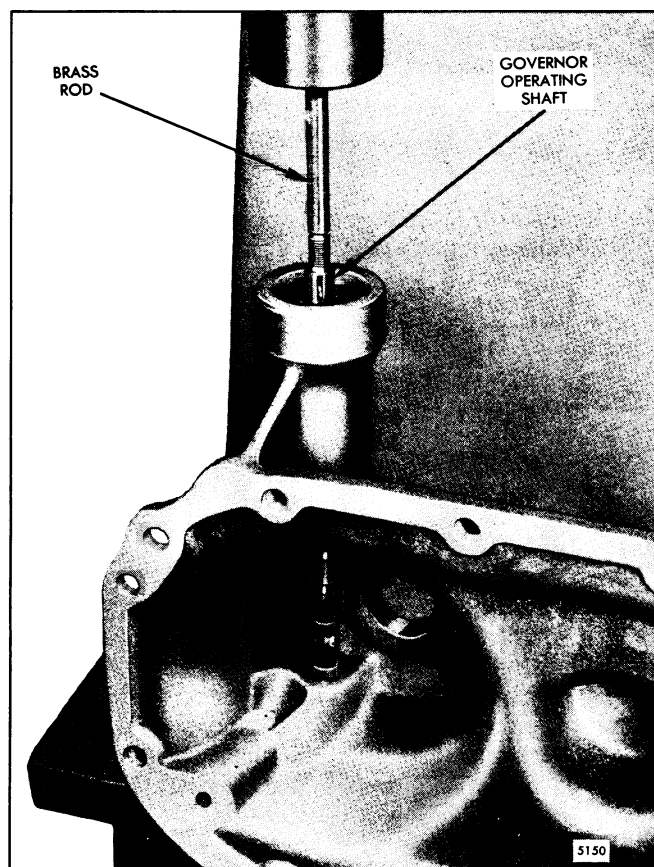

Fig. 12 - Removing Operating Shaft from Weight Housing Upper Bearing
- a. Remove the Woodruff key (30) from the operating shaft (34).
- b. Remove the two spacers (31) and snap ring (33) from the operating shaft,
- c. Position the weight housing assembly (50) in an arbor press. Press down on the operating shaft (34) to remove the cup plug (37) from the bottom of the housing and to remove the upper bearing (32) from the shaft (Fig. 12).